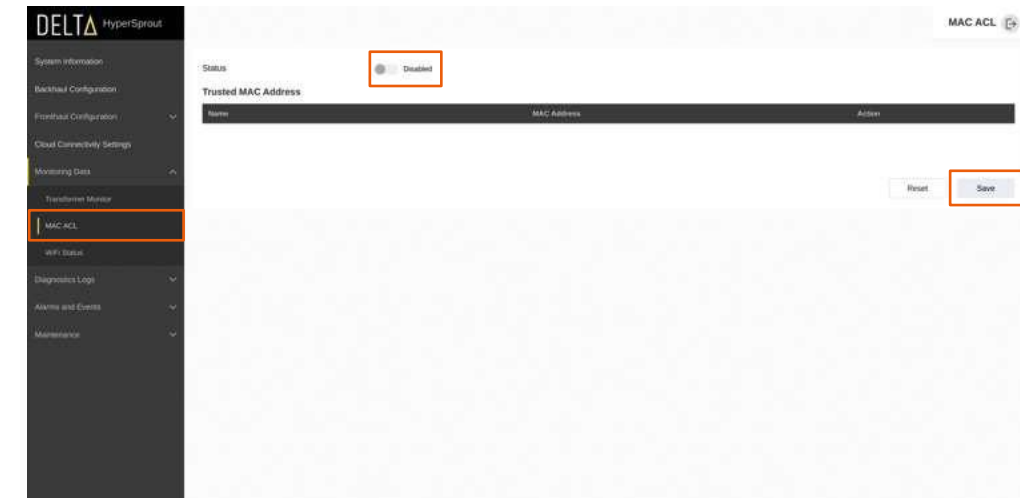

Figure 55: MAC ACL – Representation - 1
- From the *MAC ACL* page, click the *Enable* icon and select *Save*. See *Figure 55*.